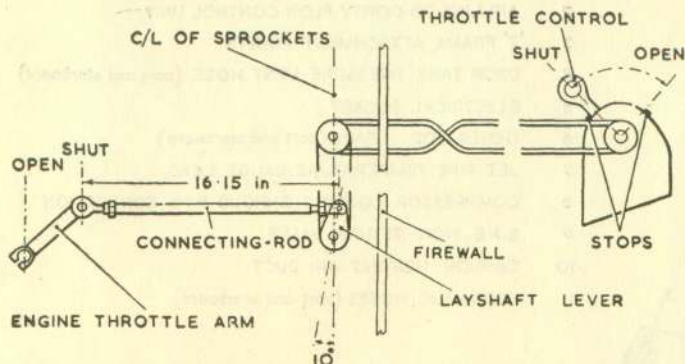

Fig. 6. Throttle control setting (pre-mod. N.629)
- (1) Pre-Mod. N.629 (fig. 6):—